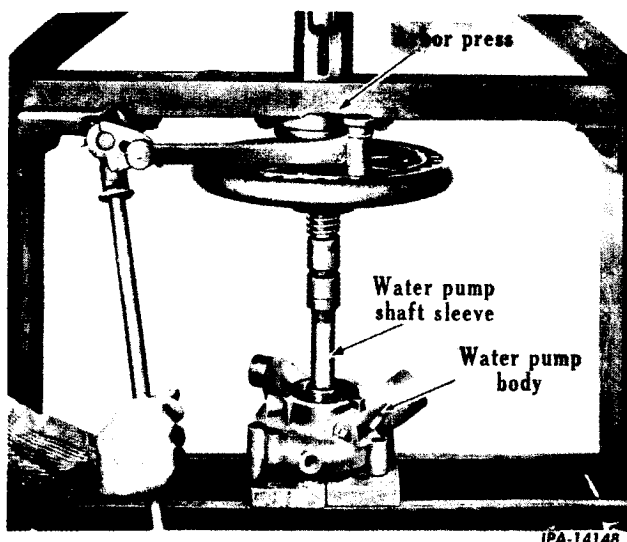

Fig. 20 - Removing Water Pump Shaft Sleeve From the Pump Body.
7. When it is necessary to replace the sleeve or pump body, the sleeve may be pressed from the body with an arbor press as shown in Fig. 20.
1. If the sleeve has been removed, press it into the body as shown in Fig. 20, except that the sleeve should be entered into the body from the cover side.